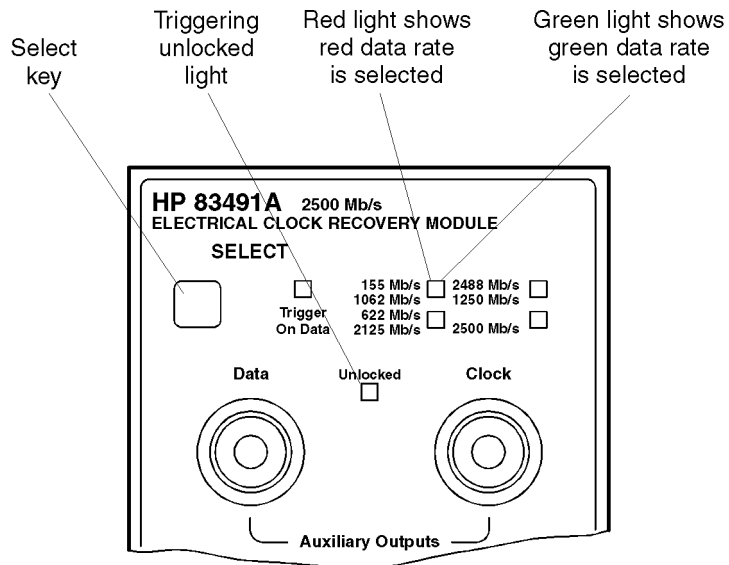

Figure 1-4. Front-panel lights
- 8 On the HP 83491/2/3A module, repeatedly press the SELECT key until a front-panel light indicates the data rate of the signal. See Figure 1-4 on page 1-6.